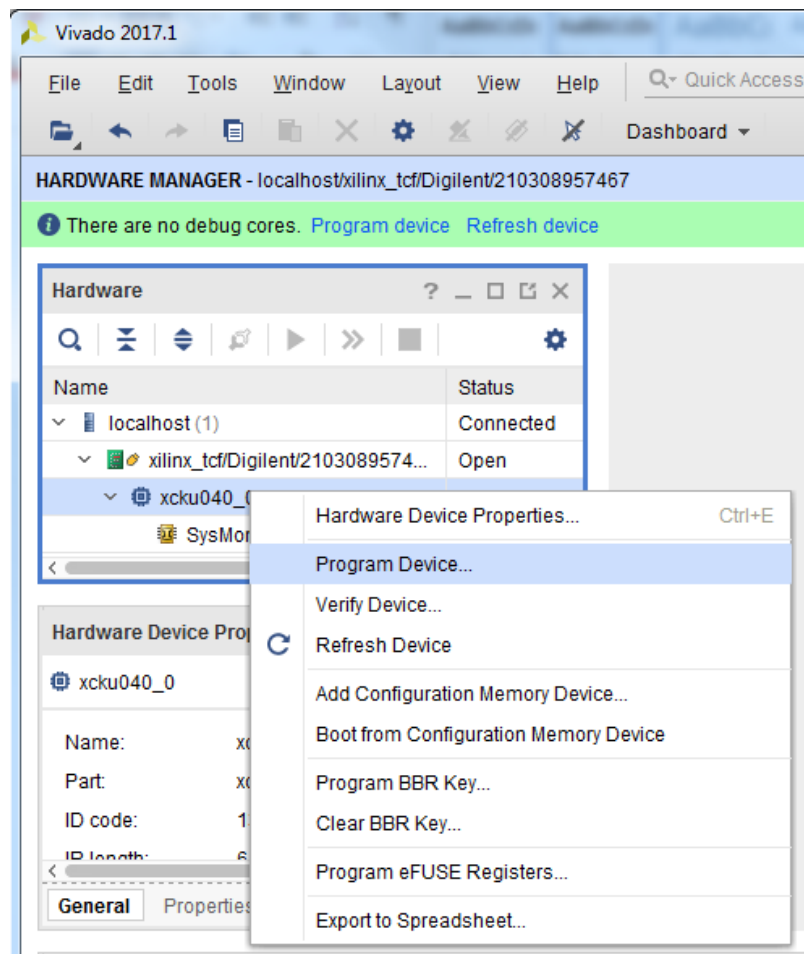

Figure 14: Select Device to Program
7. In the hardware view, right-click **xcku040** and click **Program Device** as shown in Figure 14.